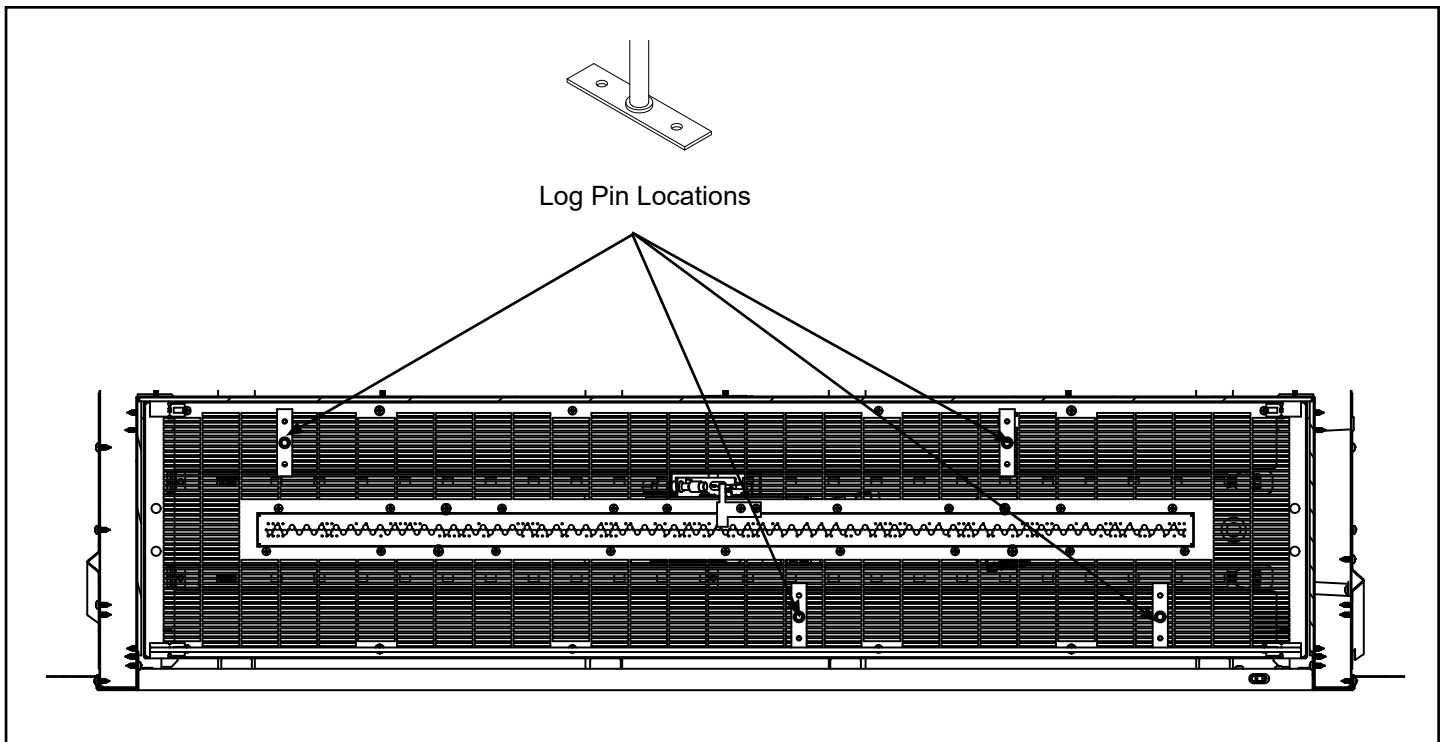

Figure 7.5– Log Pin Placement for AVFL42N(P)IP-BU, AVFL42N(P)IP-RB, AVFL48N(P)IP, AVFLST48N(P)IP, ODLANAIG-48 AND ODLANAIGST-48
NOTE: Prior to installing the log set, you must first install the pin brackets on the burner. The air deflection glass and glass media should only be installed after the pin brackets are in place. The air deflection glass should be installed prior to placing glass media on the burner. The logs must then be placed in the unit after the glass media and air deflection glass. If the optional logs are added to the appliance after installation of deflective glass and glass media, move the glass media away from the pin location holes on the firebox bottom assembly as per Figure 7.5 or 7.7.
1. Mount the four log support pin brackets using mounting holes and screws provided in locations indicated in Figure 7.5 for the front and rear log. Only one hole of the pin bracket will be used to secure the pin to the outside of the burner assembly base. The other hole remains unused and rests on the mesh area. Next, arrange glass media evenly across the burner again.